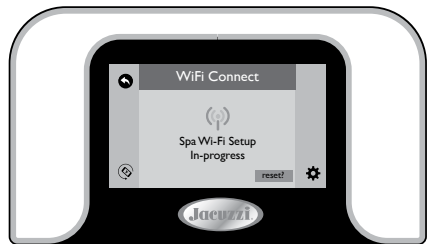

Figure 12.10b
2. While the system attempts to connect you will see the, “Spa Wi-Fi Setup in-progress,” Figure 12.10b. When the connection is done the display will read, “Spa Wi-Fi Setup Connection Success,” Figure 12.10c.